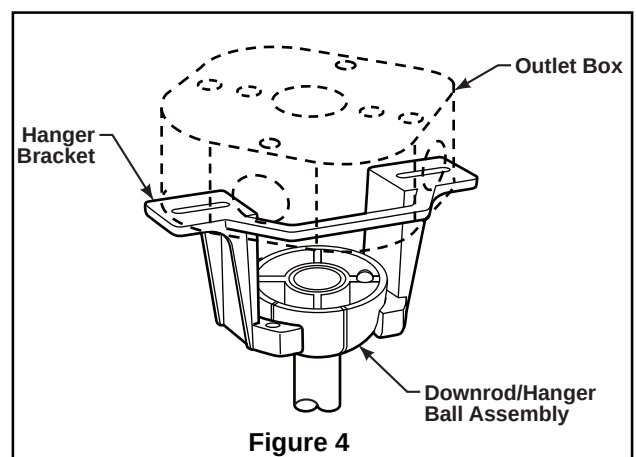

Figure 4
- ☐ **4.** Thread downrod into the downrod support on top of the motor. Install the clevis pin by aligning the holes in the downrod support with holes in the downrod. Secure clevis pin with hairpin clip. Tighten the two set screws with nuts in the downrod support. (Figure 4)
2. Carefully lift the fan and seat the downrod/hanger ball assembly on the hanger bracket that was just attached to the outlet box. Be sure the groove in the ball is lined up with tab on the hanger bracket. (Figure 4)
- ☐ 4. Assemble the LED assembly to the light kit assembly use the removed screws in Step 2. (Figure 4)
- ☐ **6. Remote Control Setting and Speed (RPM) Setting Process : (Figure 4)**